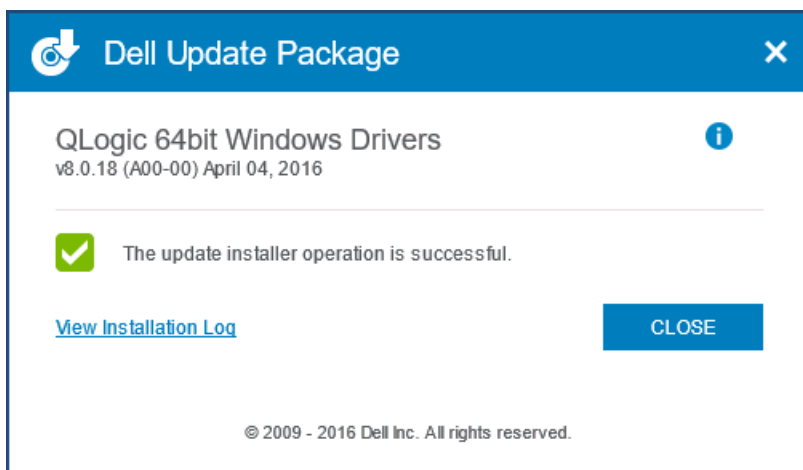

Figure 3-8. Dell Update Package Window
9. In the Dell Update Package window (Figure 3-8), "Update installer operation was successful" indicates completion.